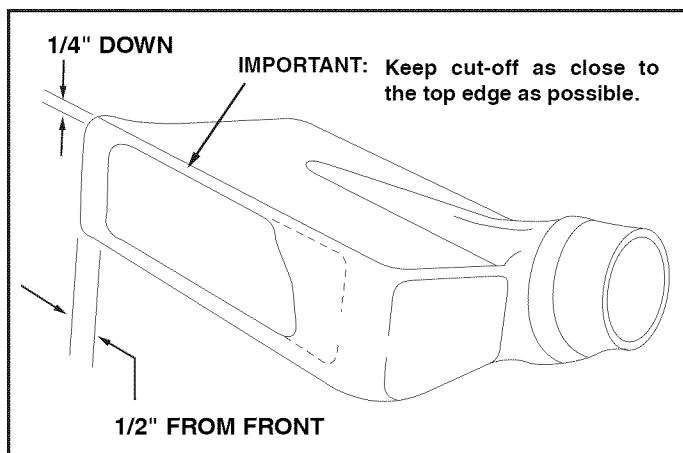

FIGURE 25
- Tape the template to the face of the adapter, about 1/2" from front and 1/4" down from top for deeper decks. For shallow decks, position template low enough that adapter will not extend below bottom of deck. Mark outline of template on face of adapter using white crayon, nail or scribe. Drill a starting hole inside the outline, then use a saber saw or key hole saw to cut out the opening. See figure 25.